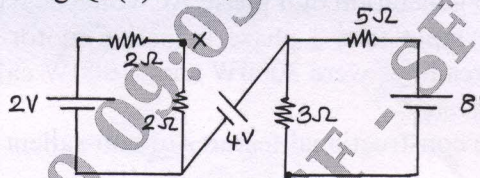

Fig.Q2(b)
- b. Apply Kirchoff's laws to find pontifical difference between X and Y for below shown electrical circuit diagram IN Fig.Q2(b). (07 Marks)